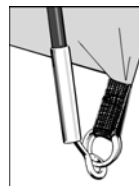

Figure 1.
- Locate the end of each long diagonal pole at the front of the tent into the metal pin system attached to the groundsheet. (see figure 1) Make sure poles locate into correct pin system (all poles follow corresponding flysheet seams to pin system). Loosen any tension straps attached to the pin system.
- Locate one end of each pole onto the corresponding metal pin. The metal pin inserts into the hollow metal ferrule on the end of each pole. **(See Figure 1).** Push the pole into a curve from the opposite side, one at a time, and locate all pole ends onto the metal pins.